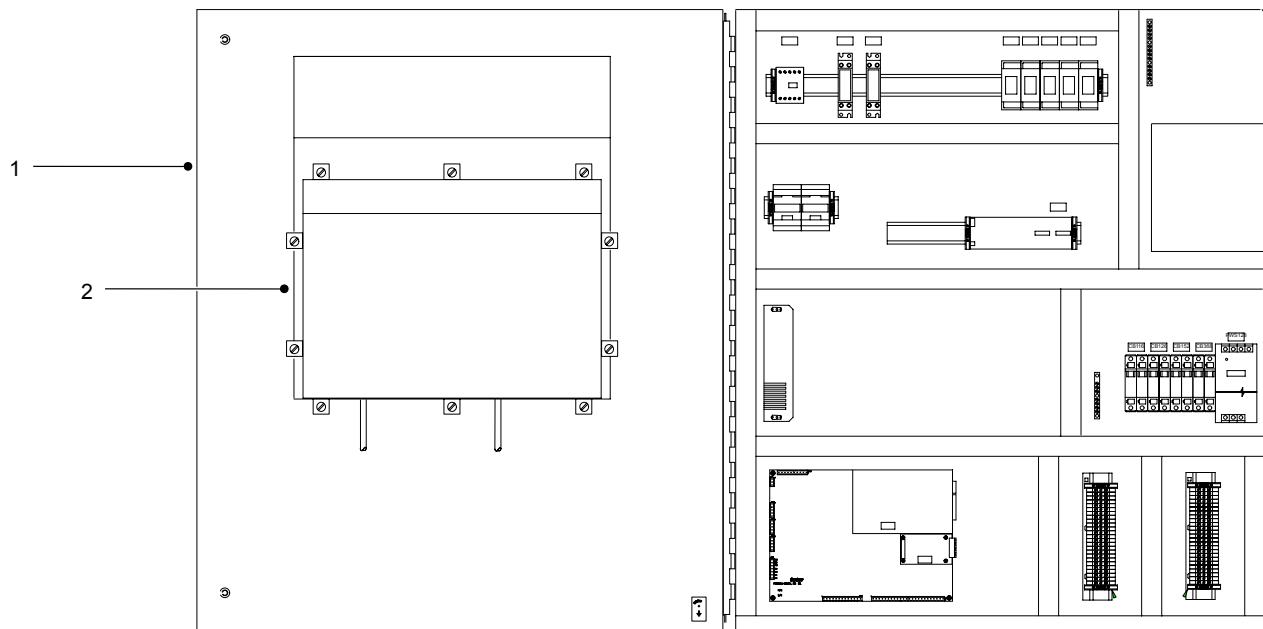

Figure 9 Accessing the Operator Interface
1. See Figure 9. Open the enclosure door (1).
2. Connect a mouse and USB-type keyboard to the VersaView PC (2).
11. Click on **Open File** (9) and select the desired *s19* file. Click on **Update PCI** (8).
12. The time and file loading progress appears in the Elapsed Time (4) and the File Progress (5) fields.
13. When the process is done, click on **EXIT** (6) to exit Windows Explorer.
14. Disconnect the keyboard and mouse from the VersaView PC (2).
15. See Figure 9. Close the enclosure door (1) and cycle power to the PCI controller.
2. Maximize the **SerialCom** window (1).
3. See Screen 25. Touch either Unit 1 or Unit 2 in the **Config File Transfer** field (3) to save data from the applicable controller board.
4. Touch **Save Config File** (4). Using the keyboard, enter the name of the file to save in the file-name field. Touch **Save** (2).
5. When **OK-File Saved** appears in the field (5), minimize the **SerialCom** window (1).
7. See Figure 9. Close the enclosure door (1).
3. See Screen 26. Touch either Unit 1 or Unit 2 in the **Config File Transfer** field (3) to load data to the applicable controller board.
4. Touch **Load Config File** (4).
6. Wait for the PCI controller to update. When **Transfer Complete** appears in the field (5), minimize the **SerialCom** window (1).
8. See Figure 9. Close the enclosure door (1).